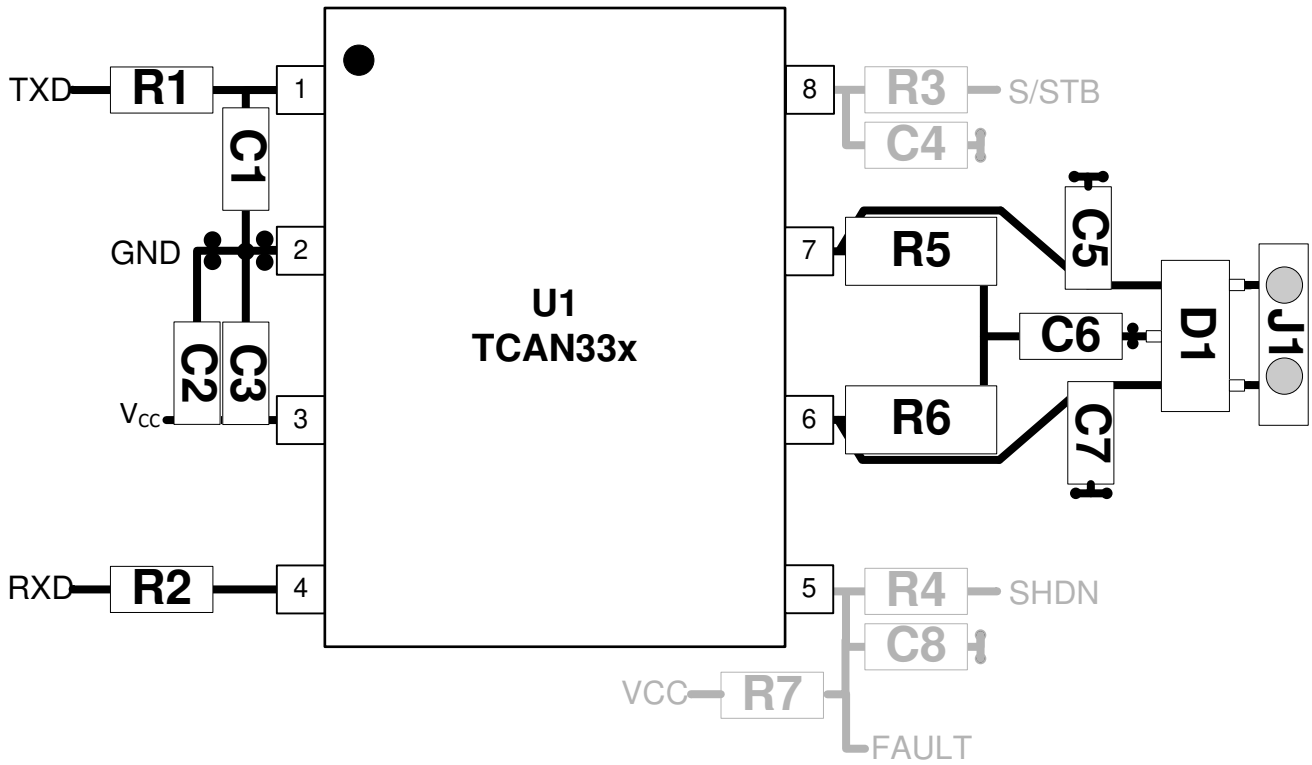

图 7-7. Layout Example
- Transient Protection on CANH and CANL: Transient Voltage Suppression (TVS) and capacitors (D1, C5 and C7 shown in 图 7-7) can be used for additional system level protection. These devices must be placed as close to the connector as possible. This prevents the transient energy and noise from penetrating into other nets on the board.
- Bus Termination on CANH and CANL: 图 7-7 shows split termination where the termination is split into two resistors, R5 and R6, with the center or split tap of the termination connected to ground through capacitor C6. Split termination provides common mode filtering for the bus. When termination is placed on the board instead of directly on the bus, care must be taken to ensure the terminating node is not removed from the bus, as this causes signal integrity issues if the bus is not properly terminated on both ends.